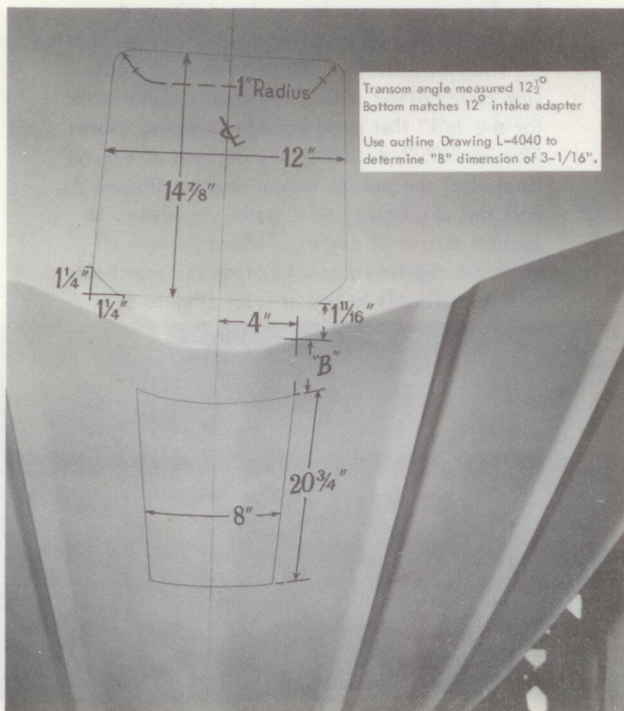

Figure 2
4. From (2) and (3) above select the proper outline dimension drawing (L-4137, L-4040, L-4155 or L-4157) and mark all the cut-outs on the transom and boat bottom (Figure 2).